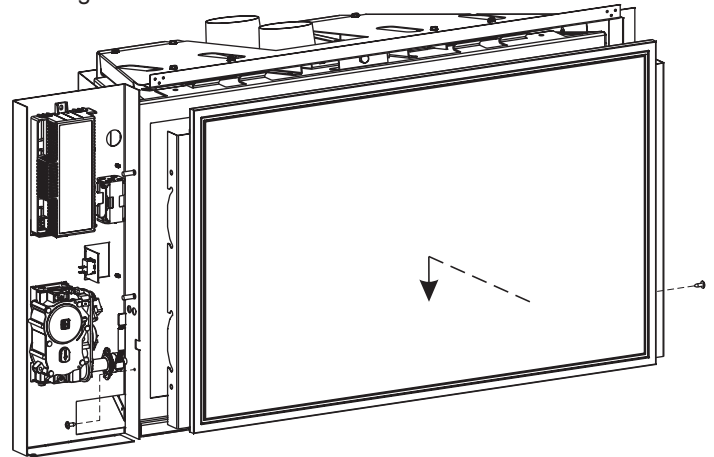

Figure 17
6. Place the screen on the four pegs (two each side) on the firebox. Secure with two screws (one each side) as shown in Figure 17.